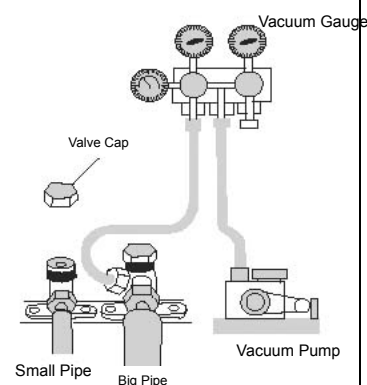

Figure 11-10
- If conditions permit, use a vacuum pump to exhaust air in the unit from the valve core. ( Figure 11-10)
- Connect the middle flexible charge tube at the vacuum gauge with the vacuum pump and connect the low pressure (LO) end with the refrigerant charge mouth of the gas valve. ( Figure 11-10)
- Start the vacuum pump for vacuum pumping. When the multi-use meter reads 1bar, put the low pressure (LO) handle at the vacuum gauge in the complete close position. Keep the status for above 15 minutes and ensure the pressure of the vacuum pump maintains unchanged.